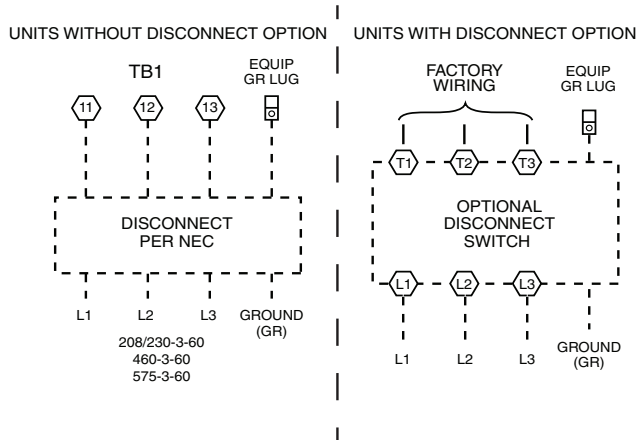

Fig. 26 — Power Wiring Connections
Size wire based on MCA (Minimum Circuit Amps) on the unit informative plate. See Fig. 26 for power wiring connections to the unit power terminal block and equipment ground. Maximum wire size is 2/0 AWG per pole.
3. Install power lines to terminal connections as shown in Fig. 26.